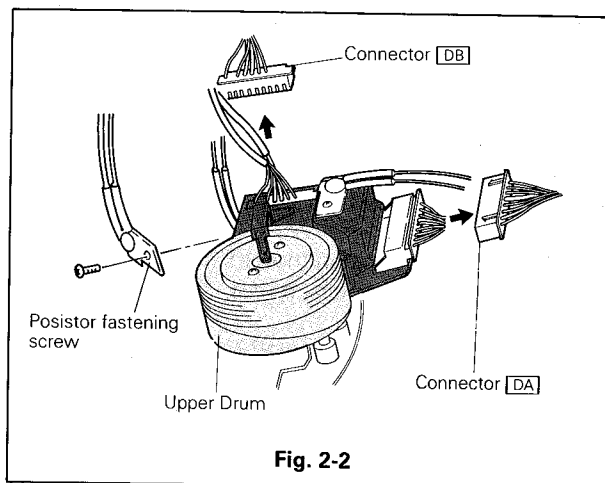

Fig. 2-2
- B. Remove the posistor fastening screw as shown in Fig. 2-2 and remove the posistor.